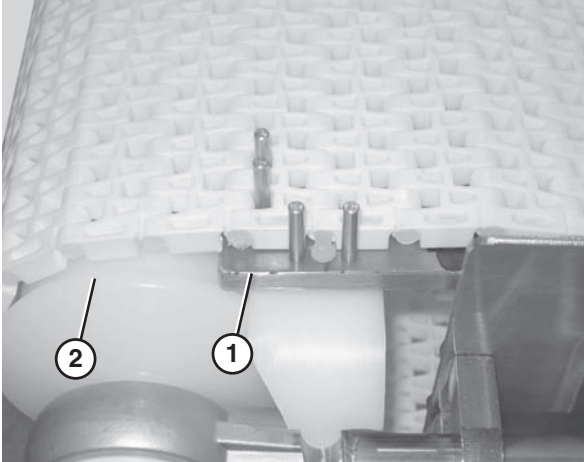

Figure 53
2. Secure the retaining head side of the belt. Use the belt removal tool (Figure 54, item 1) for 1" pitch belts. For all other belts, position the section of belt so that it is braced by the flanged puck (Figure 53, item 2).